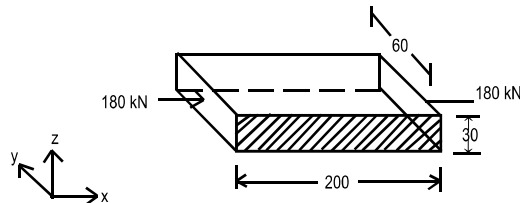

Fig. 4
3. (a) Derive the relationship between Modulus of Elasticity & Modulus of Rigidity? (6)
- (b) A rectangular bar of cross section 30 mm x 60 mm and length 200 mm is restrained from expansion along its 30 mm x 200 mm sides by surrounding material. Find the change in dimension and volume when a compressive force of 180 kN acts in axial direction (Ref. Fig. 4). Take $E = 2 \times 10^5 \text{ N/mm}^2$ and $\mu = 0.3$. What are the changes if surrounding material can restrain only 50% of expansion on 30 mm x 200 mm side? (14)